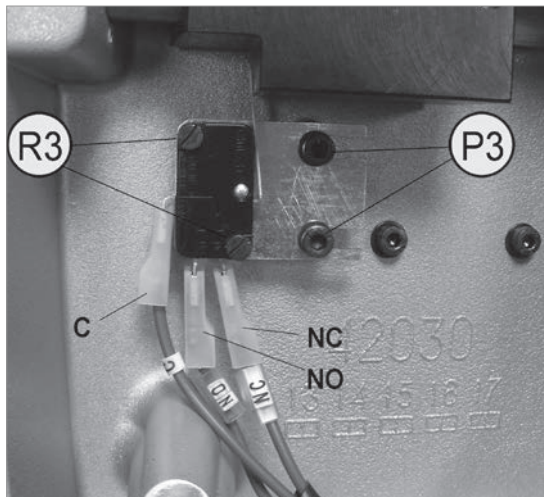

Fig.70
- 2) Disconnect the 3 connectors (c) (nc) (no) (Fig.70).